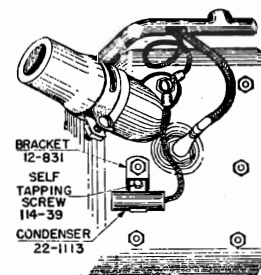

FIG. 5
3. Install the water temperature gauge condenser No. 22-1113 with its separate bracket (which fastens under one of the cylinder head nuts.) (Fig. 5.)